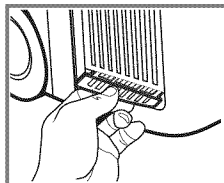

Fig.1
1. Remove the **PUMP DRAIN CAP** by turning clockwise (Reverse thread). (Fig.1)